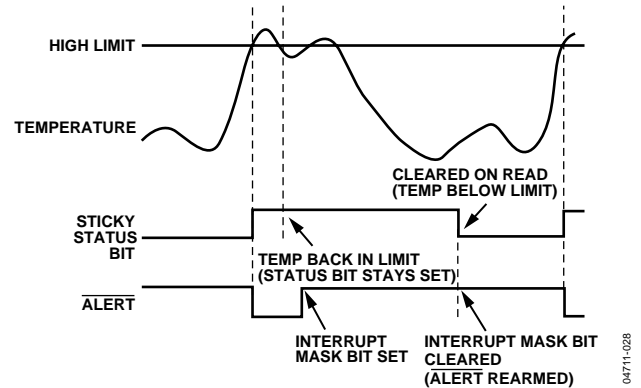

Figure 29. How Masking the Interrupt Source Affects $\overline{\text{ALERT}}$ Output
7. Periodically poll the status registers. If the interrupt status bit has cleared, reset the corresponding interrupt mask bit to 0. This causes the $\overline{\text{ALERT}}$ output and status bits to behave as shown in Figure 29.